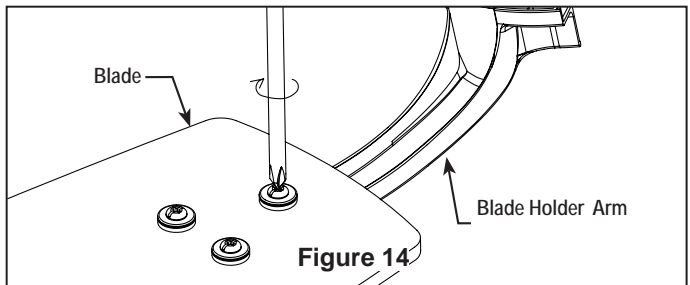

Figure 14
2. Position the blade over the blade holder with threaded posts showing. Make sure the bottom edge of the blade is fully seated against the blade arm. With a phillips screwdriver, tighten 3/16-24 x 7.5 mm phillips head screws and flat washers to secure the blade to the blade arm. (Figure 14)